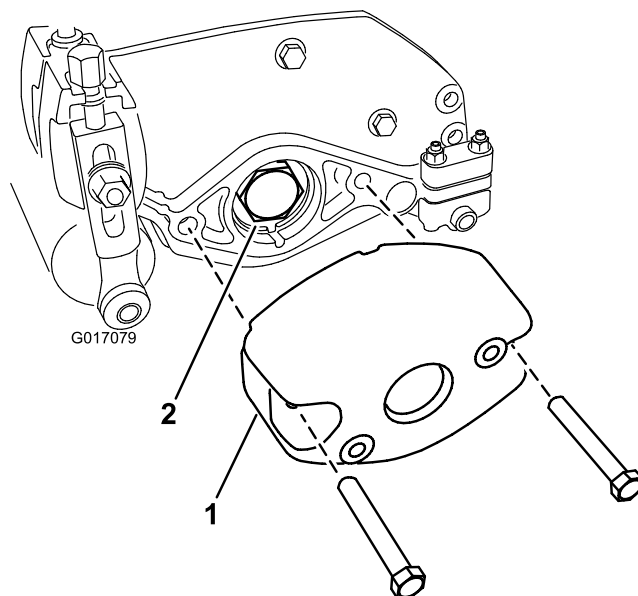

Figure 2
5. Remove the 2 bolts and nuts securing the counterweight to the left end of the cutting unit. Remove the counterweight (Figure 2).
6. Remove the bearing nut from the reel shaft (Figure 2).